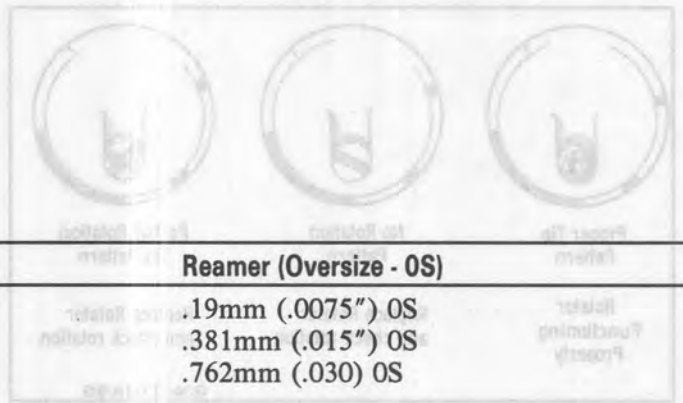

Figure 4 Reaming Valve Guide
- The valve guides may be reamed oversize and an oversized valve installed (Figure 4).